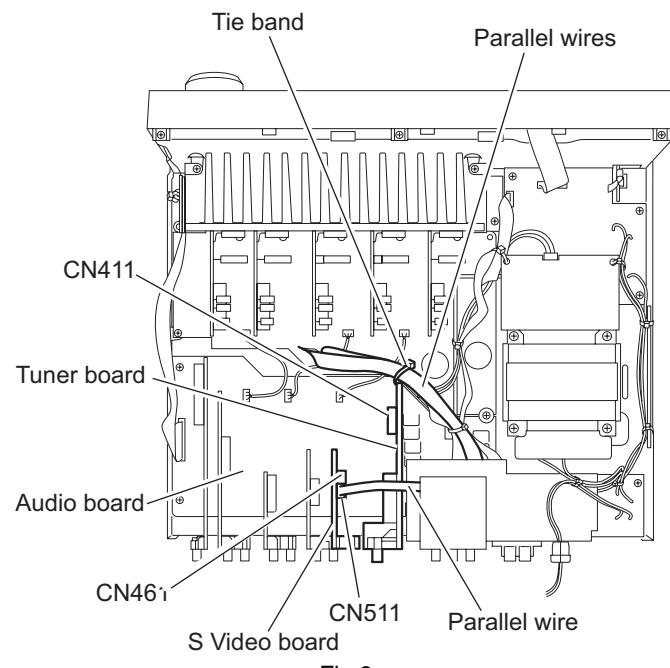

Fig.8
2.6 Removing the S Video board and tuner board (See Fig.8)